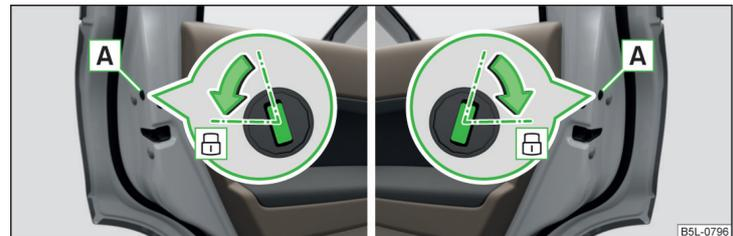

Fig. 188 **Emergency locking: Left/right rear door**
- Remove the cover **A** » Fig. 188.